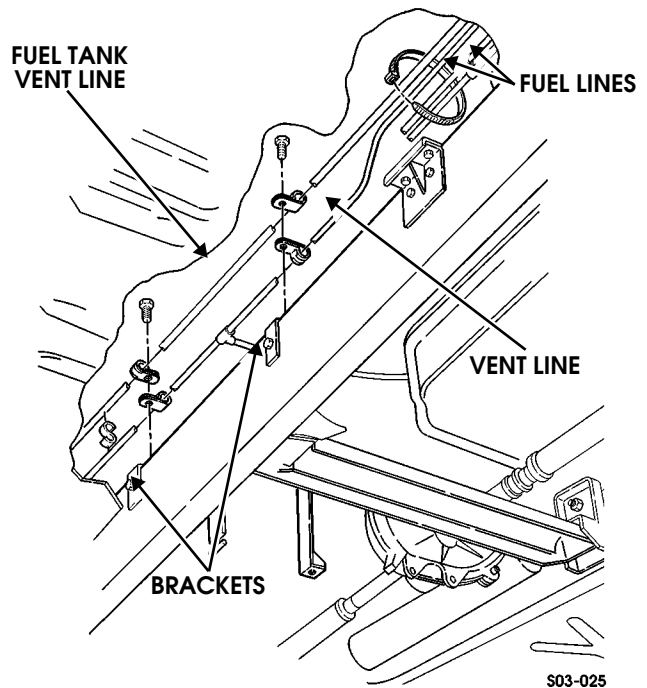

Figure 3-37: Fuel Tank Vent Filter Location
2. Remove clip and fuel tank vent line hose from vent line (Figure 3-37).
2. Secure vent line to fuel lines with new tie strap (Figure 3-37).